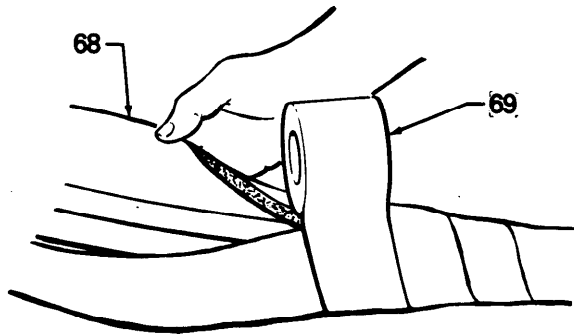

Fig 18c
- d. Wrap the insulation tubing (68) around the hose connections, overlapping it at the seam. Wrap tape (69) continuously around the tubing, beginning and ending about 2 inches (51 mm) past the slit in the insulation. This insulation minimizes heat loss at the connections and protects the couplings and heat tape from damage. See Fig 18c.